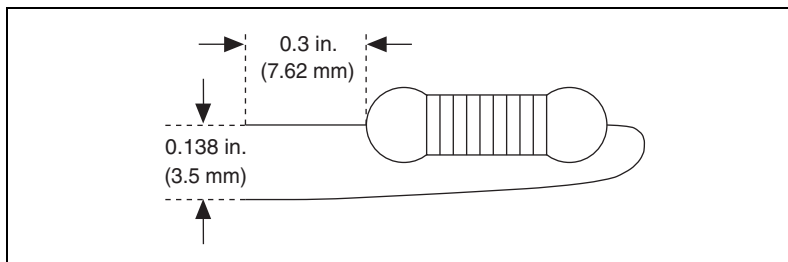

Figure 4-12. Preparing Lead Wires of PCMCIA-CAN/LS Cable Replacement Resistors
- Bend and cut the lead wires of the two resistors you want to install, as shown Figure 4-12.